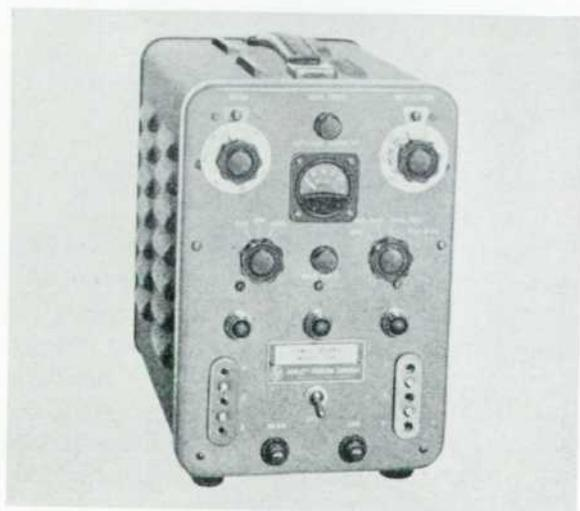

Figure 1. -hp- Model 715A Power Supply designed for supplying low-power klystrons.
AS MORE and more types of low-power klystrons have become available, need has grown for a small, bench-type power supply to operate these klystrons. The new -hp- Model 715A Power Supply shown in Figure 1 has been designed specifically for this purpose. The new unit provides—
(1) a regulated beam supply adjustable by a calibrated panel control from -250 to -400 volts d-c at currents up to 50 milliamperes. Beam current is monitored by the panel meter visible in Figure 1.
(2) a regulated reflector supply adjustable by calibrated panel controls from -10 to -900 volts d-c.
(3) square-wave modulation on the reflector supply at a nominal repetition frequency of 1000 cps.* Square-wave ampli-